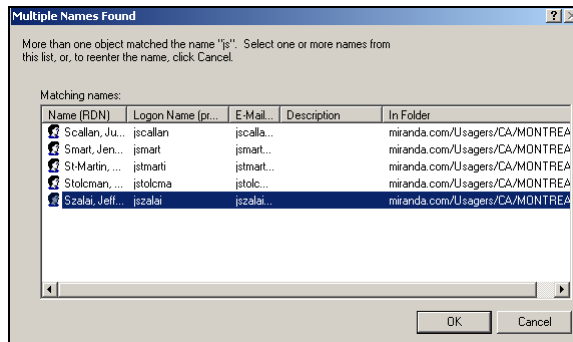

Figure 19-51. The Multiple Name Found dialog box
5. If only one match is found, then the name is immediately added to the text box. However, if multiple names match the search criteria, then the **MULTIPLE NAMES FOUND** dialog box appears (figure 19-51). Select the name of the user(s) that you want to add from the **MULTIPLE NAME FOUND** dialog box and press **OK**.